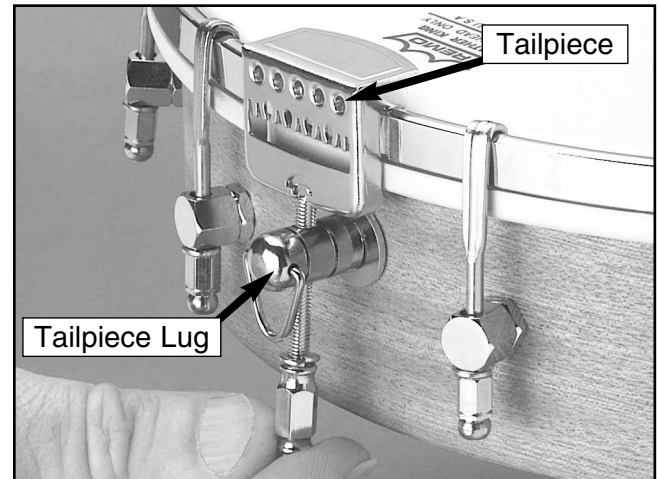

Figure 14. Tightening tailpiece screw into lug.
2. Set the tailpiece on the tensioning hoop, as shown in **Figure 14**, and tighten the nut against the tailpiece lug.